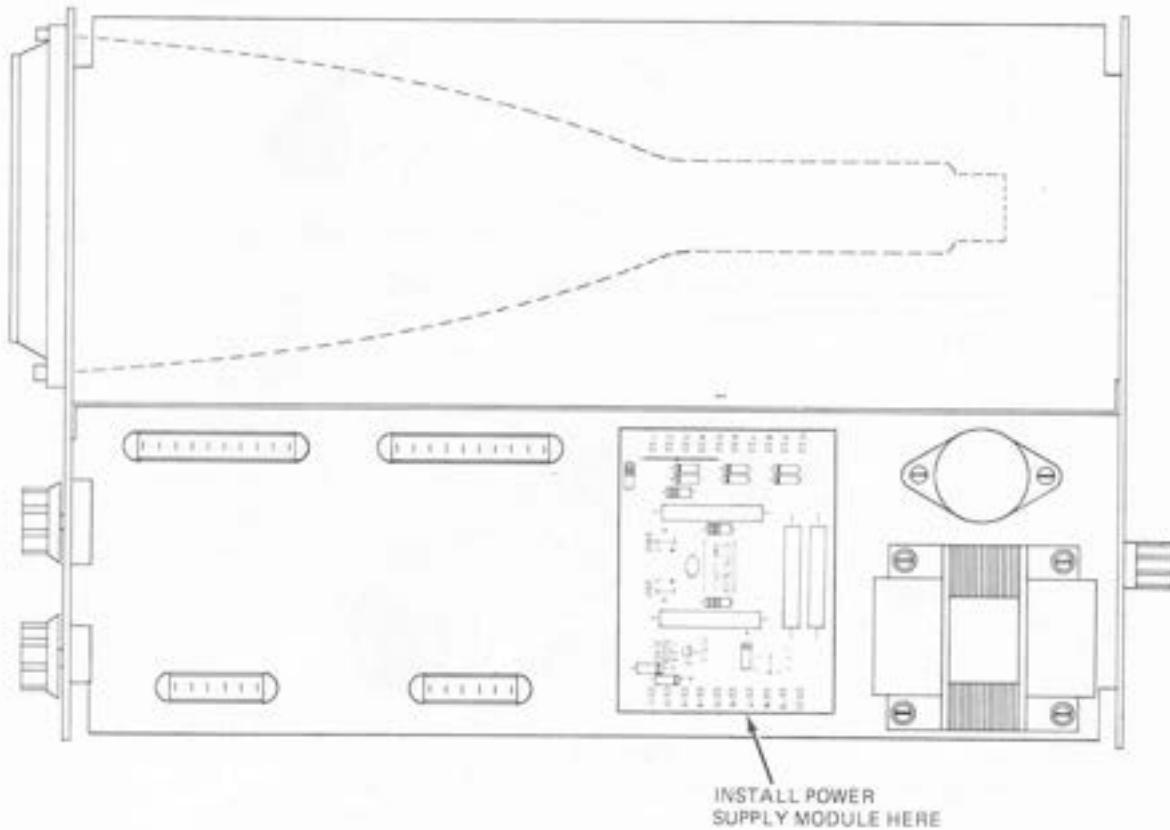

Figure 39. Installing the power supply module.
- (1) Install the power supply module as shown in Fig.39. The circuit module stand-offs are arranged such that each module can only be installed in one position on the chassis. If these stand-offs are broken or removed, a module could be incorrectly installed and damaged. Note, for these tests you should have *only* the power module installed . . ()
- (2) Before applying power, check the resistance between terminals 312, 313, 318, 319, 320, and ground. You should read higher than zero ohms at each terminal. A measurement of zero ohms indicates a short to ground. Do not operate the scope if this condition exists, as you could damage the power supply parts. Check your operating manual for troubleshooting assistance ()
- (3) Assuming you do not read zero ohms in the above step, switch your meter from ohms to dc, and plug in the oscilloscope line cord. Then move the power switch to the ON position and measure the voltage (to ground) at terminal 312 (4 to 6 volts), terminal 313 (8 to 10 volts), terminal 318 (-7 to -9 volts), terminal 319 (200 to 300 volts), and terminal 320 (200 to 300 volts). If you do not get the proper voltages, turn off the power and check the operating manual for troubleshooting assistance
- (4) Turn off the oscilloscope and unplug the line cord